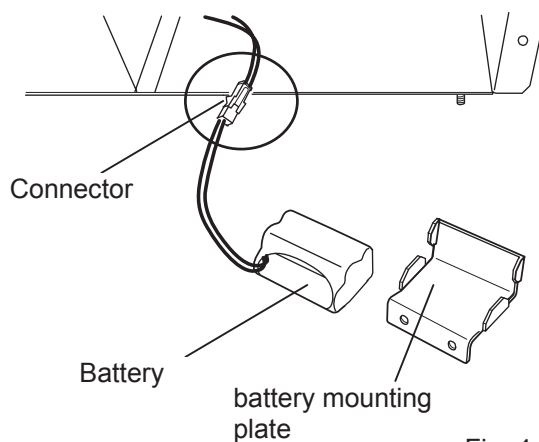

Fig. 4
4. Disconnect the battery connector and remove 2 screws fixing the battery mounting plate. (Fig. 4)